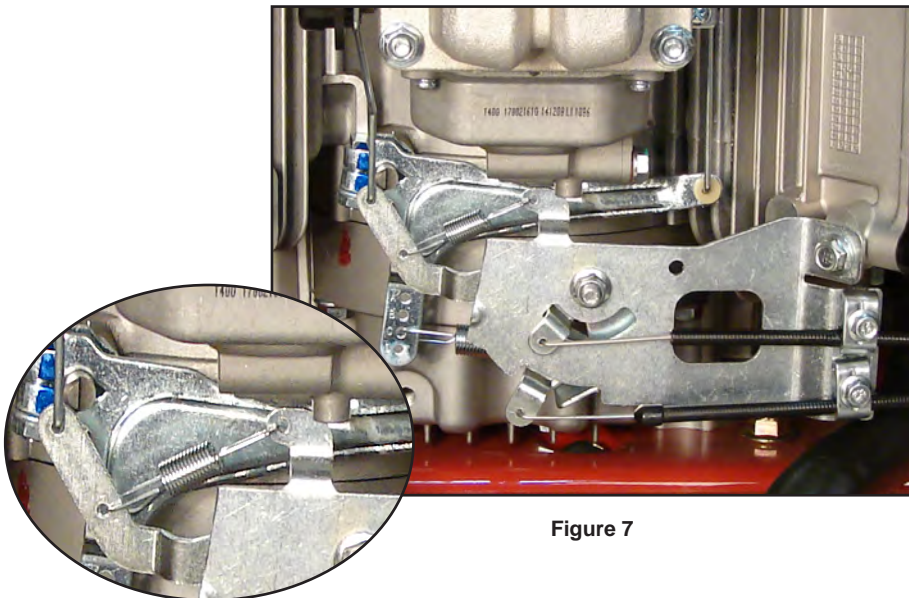

Figure 7
**Choke Spring:** Located behind the control plate, it assists in opening the choke. Connects to the pivot arm and fixed anchor on the control plate, approximate length is 2.44 in. (61.98 Nm) (Figure 7).